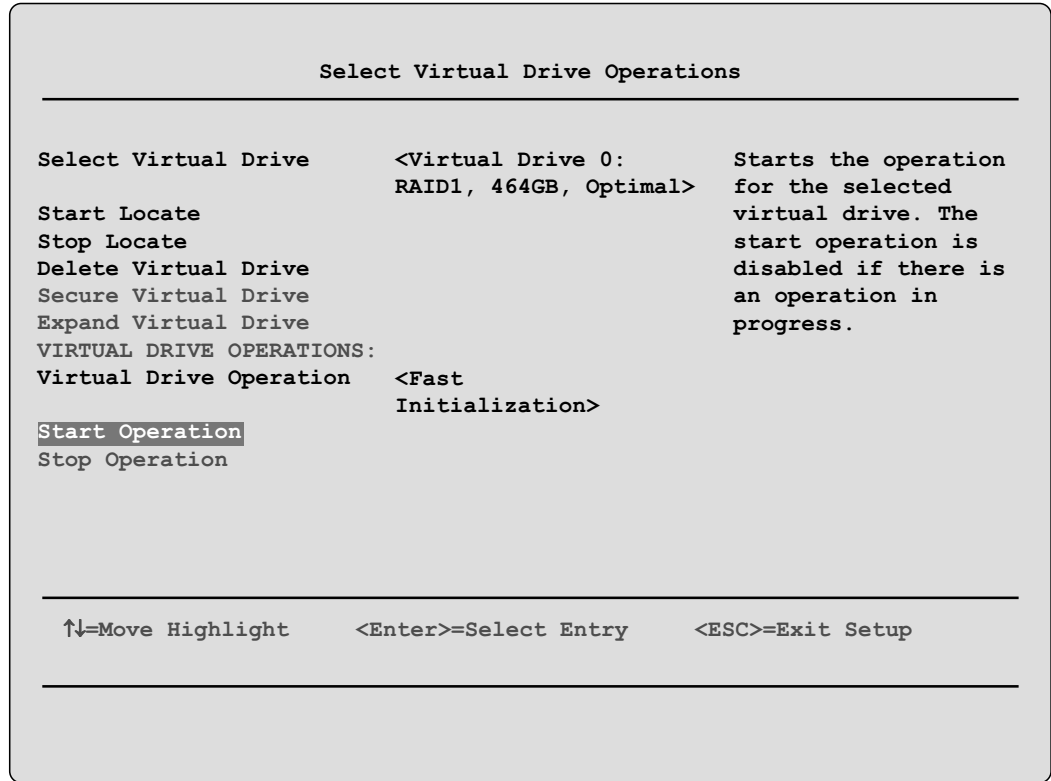

Figure 5 Select Virtual Drive Operations pane: Starting the operation
21. Verify that the Virtual Drive Operation is set to Fast Initialization and select **Start Operation** as shown in Figure 5.